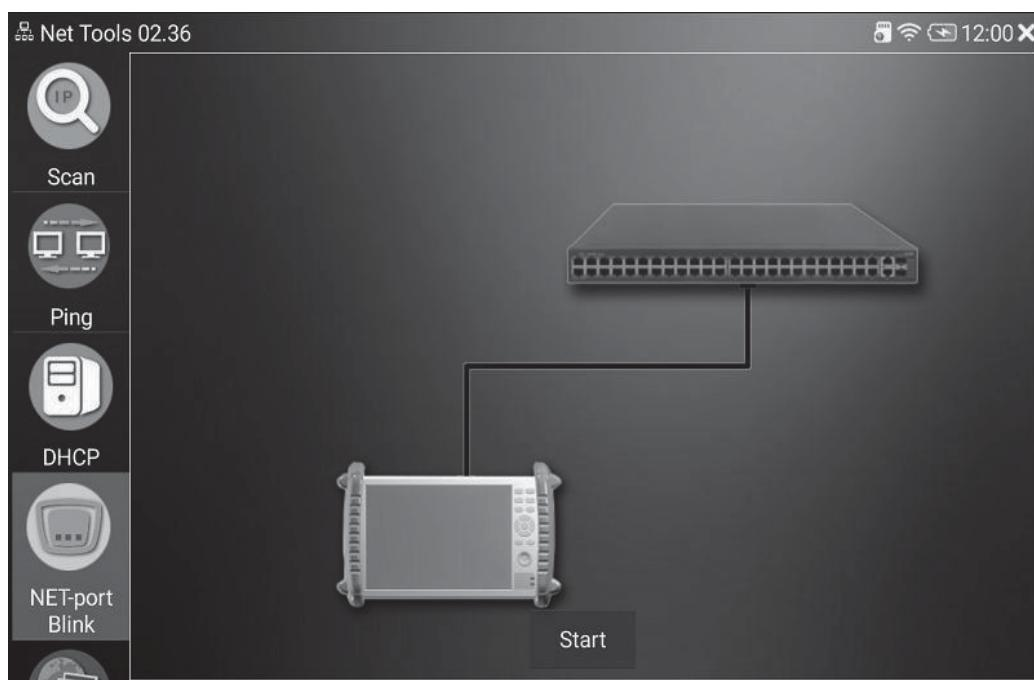

Figure 30
3)NET-port Blink function: Connect one end of the cable to LAN port, touch ‘Start’ button then you can see the port on network device blink regularly, it’s easy to find the other end of a cable by this function, port blink period is 2 seconds, as shown in Figure30